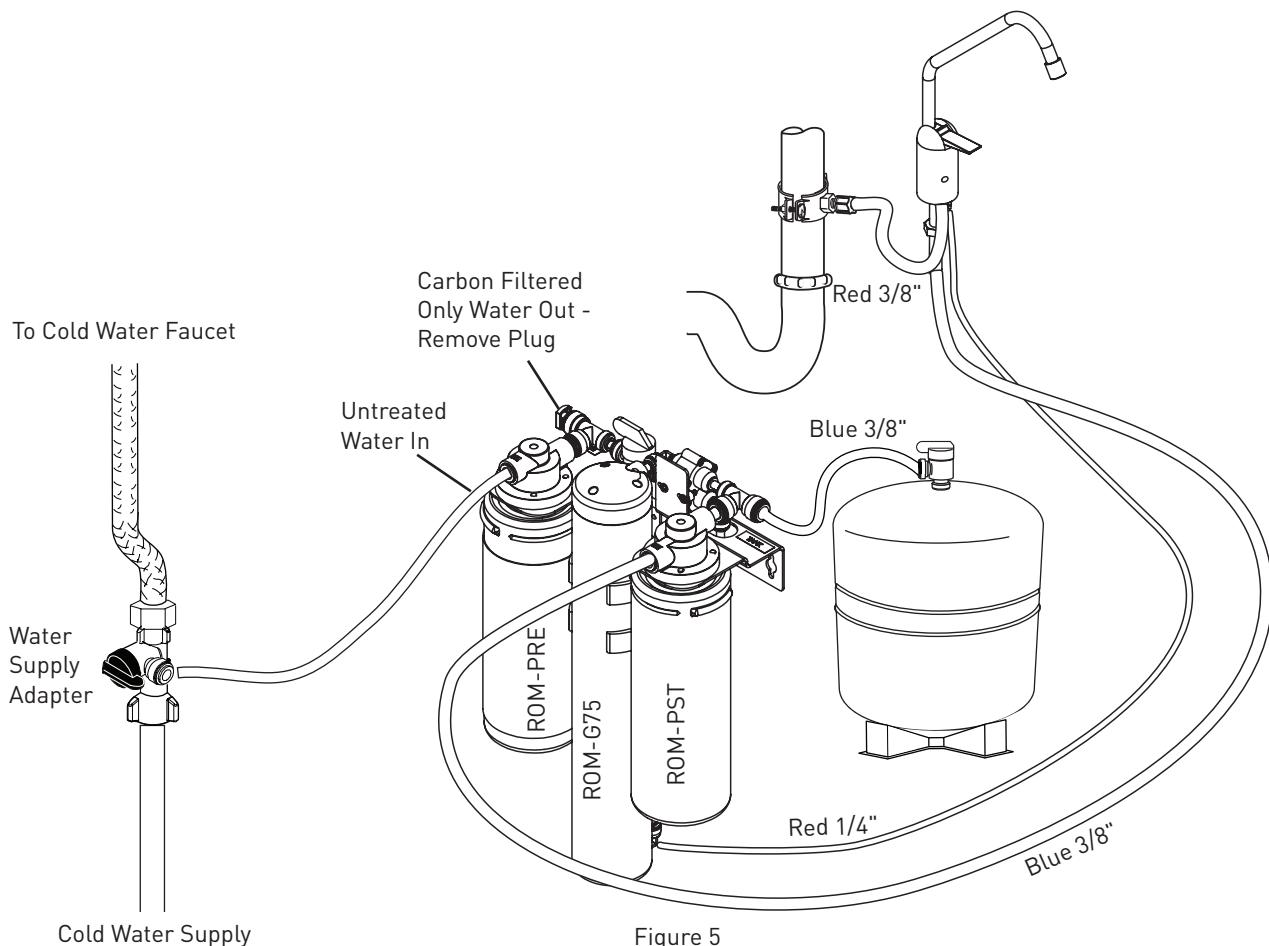

Figure 5
1. Locate the 3/8" blue tubing from the faucet. See Figure 5. The tubing must not have sharp bends or kinks that would restrict water flow. Cut length as needed. Place a mark 3/4" (1.9 cm) from the end of the tubing.